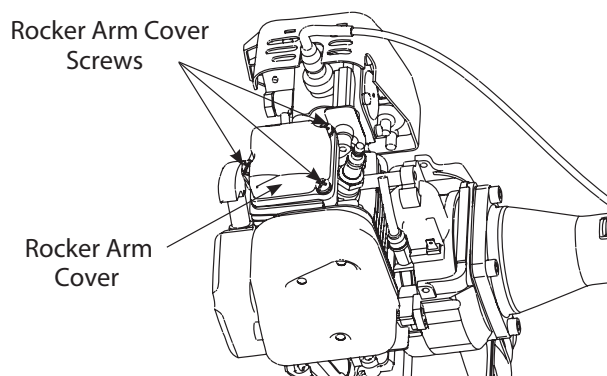

Fig. 27
7. Remove the rocker arm cover and gasket (Fig. 27).